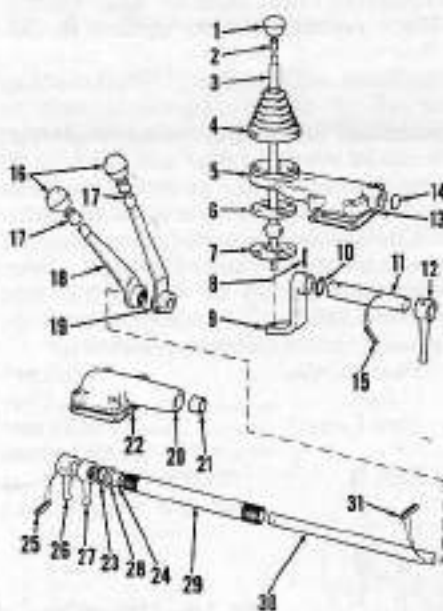

Fig. 147—Exploded view of range and transmission selector levers for 1190, 1290 and 1390 models. Platform and cab equipped Models 1490 and 1690 are similar.
**250.** Transmission or range selector lever (Fig. 147) assemblies may be removed as separate units from transmission top cover. Models equipped with platforms or cabs vary in construction, however basic design is similar to 1190, 1290 and 1390 models shown in Fig. 147.